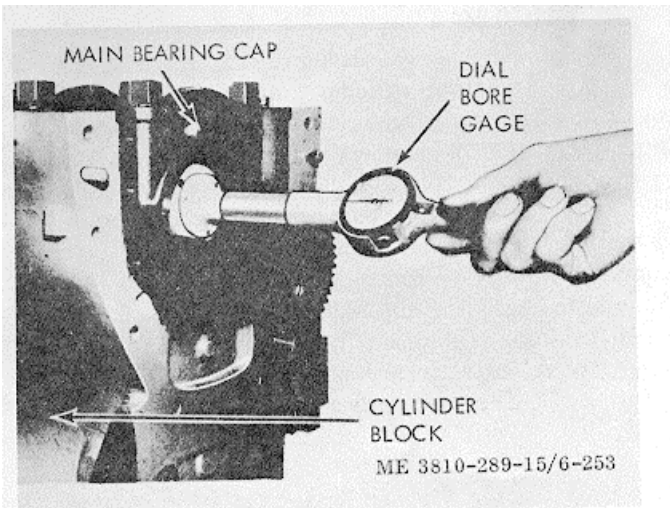

Figure 3-244. Checking main bearing bore for out-of round.
(12) Gage main bearing bores horizontally, vertically and diagonally with dial bore gage or inside micrometers properly adjusted to standards, figure 3-244, see table 2-2.